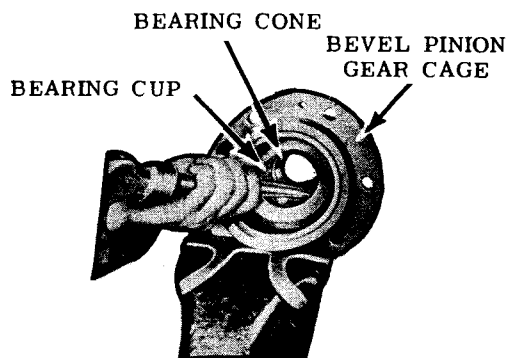
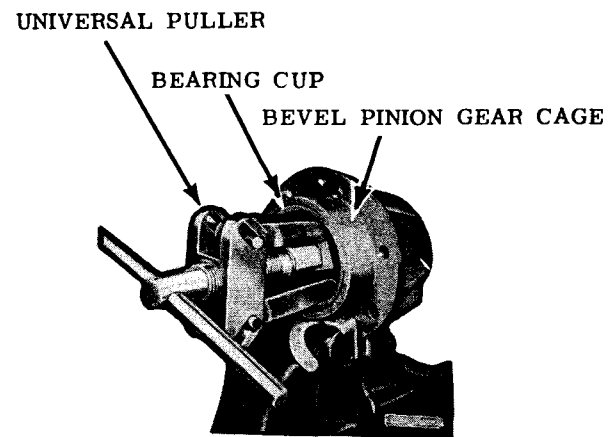

Figure 40. Removing front bearing cup.
Figure 41. Removing rear bearing cup.
b. Bevel Pinion Gear Cage Bearing Cup Replacement. Place the bevel pinion gear cage in a vise and remove the oil seal (R, fig. 36), bearing cone (J), and bearing cup (K) by tapping alternately on the cup with a brass drift as shown in figure 40. Pull the rear bearing cup from pinion gear cage with a universal puller as shown in figure 41. Position the new bearing cups in place in the pinion gear cage with the large end of taper facing away from cage. Press them into the cage until seated on the shoulder.